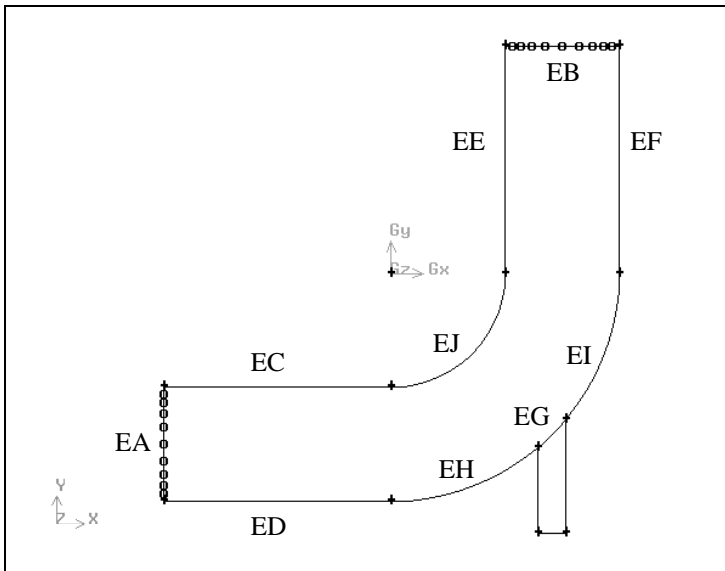

Figure 2-16: Edge meshing on inlet and outlet of large pipe
Figure 2-16 shows the mesh on the inlet and outlet edges of the large pipe.
- a) Select the edges marked EC, ED, EE, and EF in Figure 2-16.